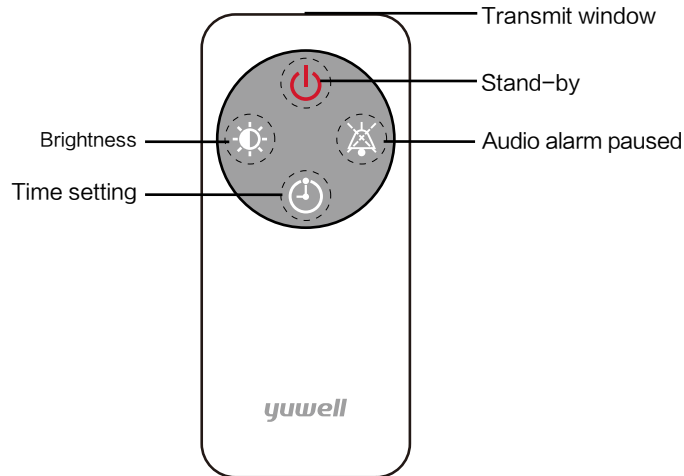

Figure 8
- The remote control is used for remote operation of the device, and the button functions are consistent with the button functions on the oxygen concentrator (Figure 8).